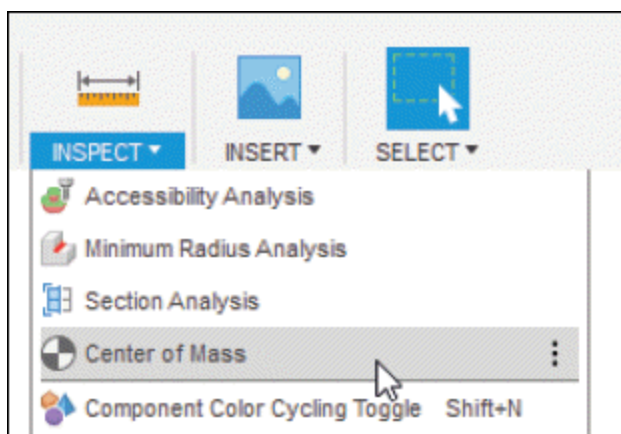
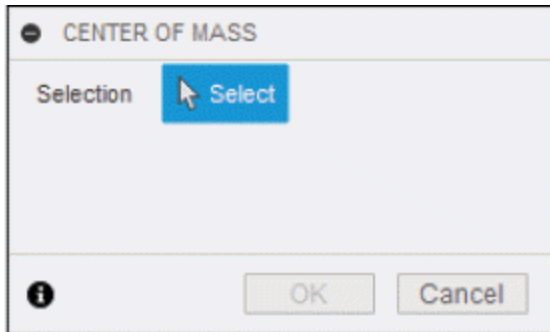

Figure-71. Center of Mass tool
Figure-72. CENTER OF MASS dialog box
- Click on the **Center of Mass** tool of **INSPECT** drop-down from **Toolbar**; refer to Figure-71. The **CENTER OF MASS** dialog box will be displayed; refer to Figure-72.